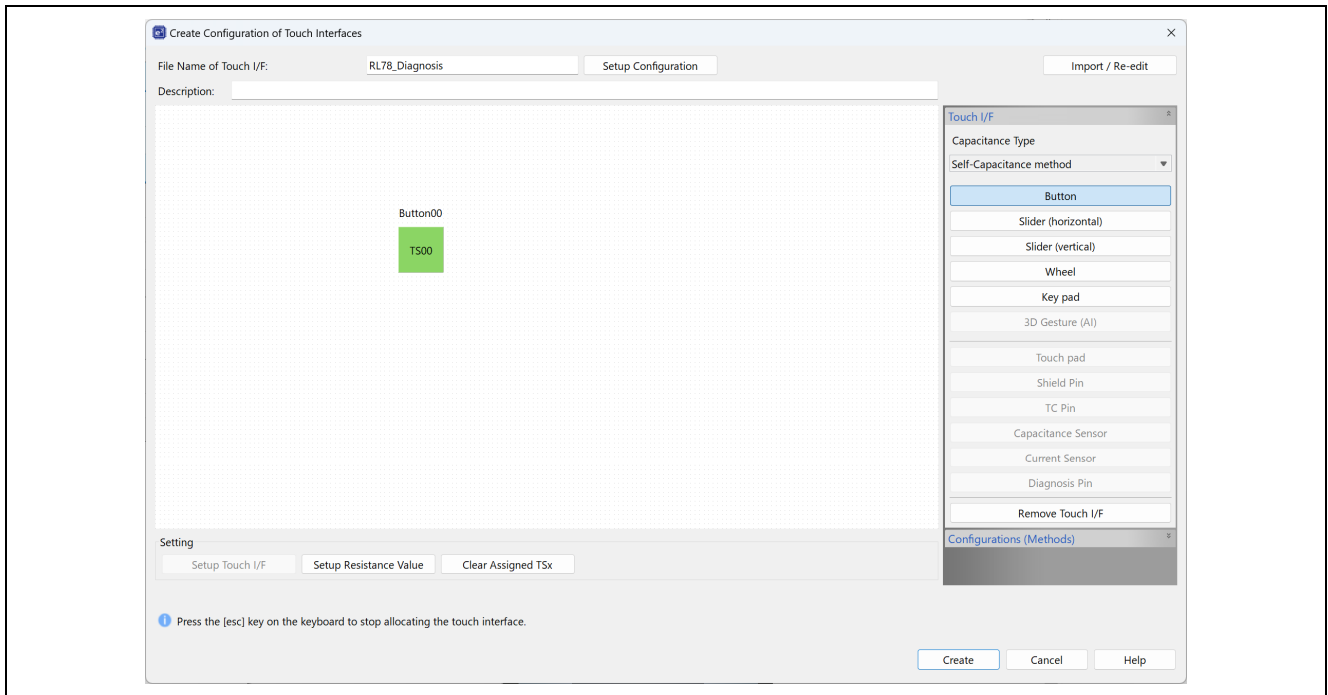

Figure 6-22 Configure TS Pin in Touch Interface Setting (RL78)
11. Configure the electrode to be used for CTSU measurement, as shown in Figure 6-22. Configuration of the diagnostic pin is not required in this step.